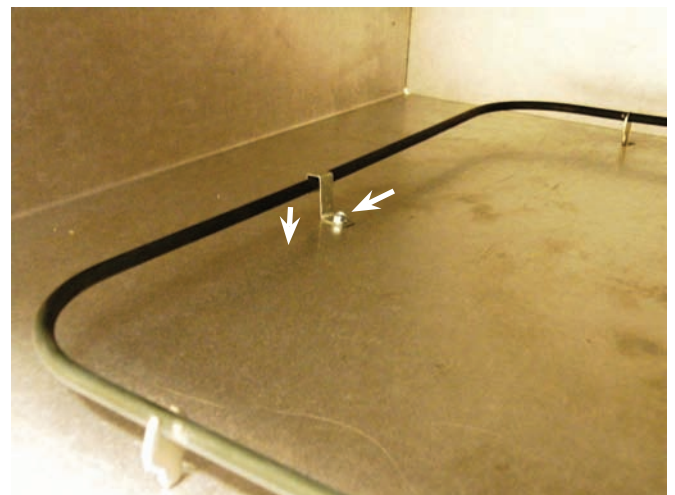

Fig 6
7. Once the element is loose and ready to be removed, either remove element holder with 1/4" hex screw or carefully bend element down to clear holder (**Fig 6**). Reverse this procedure to reinstall new part.